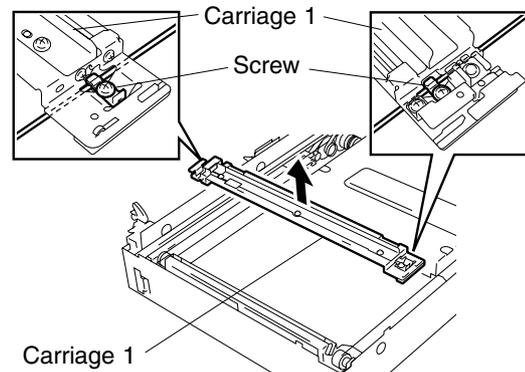

Fig. 7-8-24
10. Remove carriage 1. (See Fig. 7-8-24)
9. Remove carriage 1. (See Fig. 7-8-24)